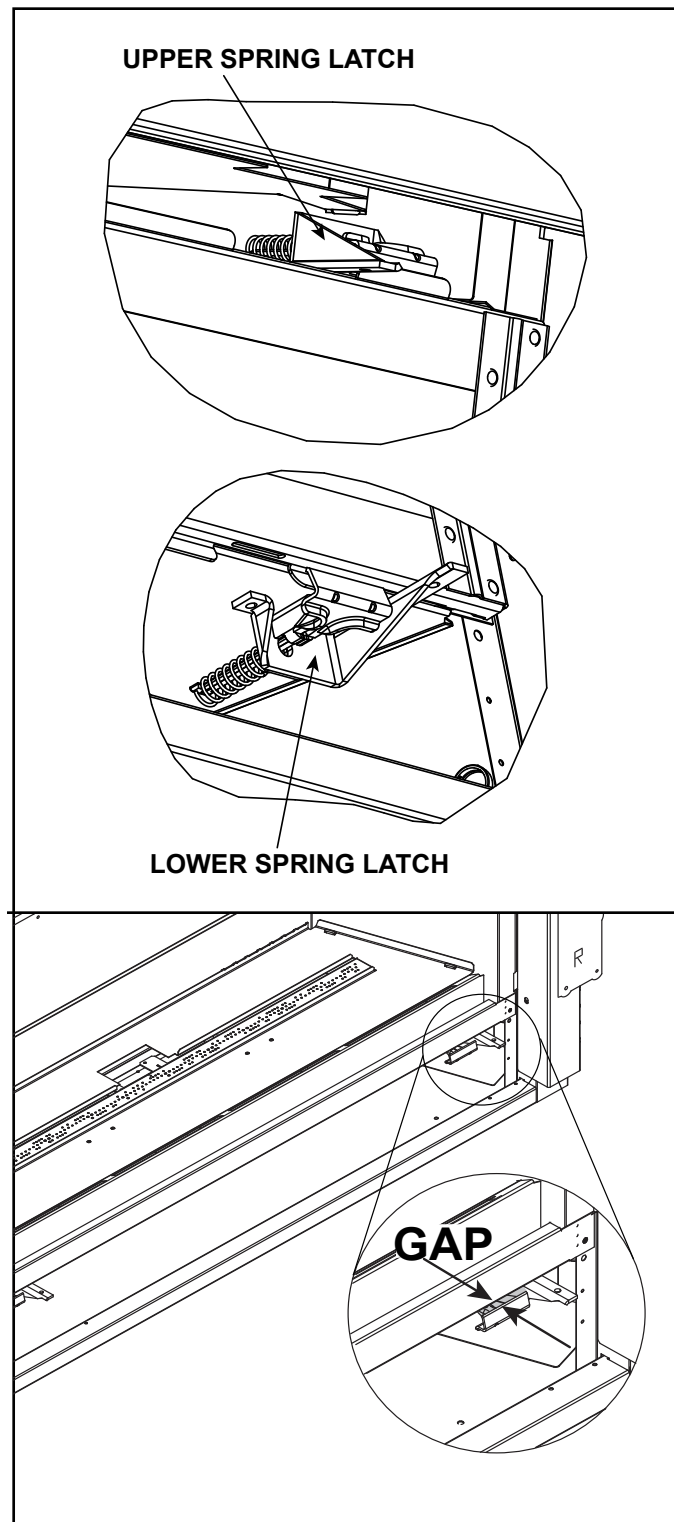

Figure 11.2 Fixed Glass Assembly
2. The glass assembly has two upper spring latches and two lower spring latches. See Figure 11.2. Locate the two spring latches that are on the upper left and right of the fireplace.
Note: Observe the presence of a space or gap between the glass latch and the front of the appliance where the bottom of the glass assembly is positioned. This gap is designed for positive placement when replacing the glass assembly. See Figure 11.2.
The bottom glass latches have been designed to create a small gap between the glass clip and the face of the appliance. See Figure 11.2.